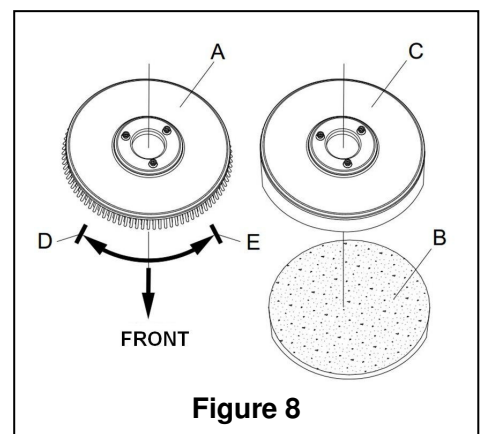

Figure 8
According to the type of floor to be cleaned, the machine may be installed with brush (Figure 8, A), or a pad-holder (Figure 8, B and C).
1. Make sure the switch (41) is at the disconnecting (Off) position.
2. Press down the handle (2) to lift the tank body (26).
3. Put the brush (A) or the pad-holder (B – C) under the case.
4. Use the handle (2) to lower the tank body (26) to come into contact with the brush or pad-holder.
5. Manually attach by following the arrow head (D) to install the brush/pad-holder (as shown in Figure 8).
6. Remove by turning the brush/pad-holder in the opposite direction and it can be taken off. (Figure 8)